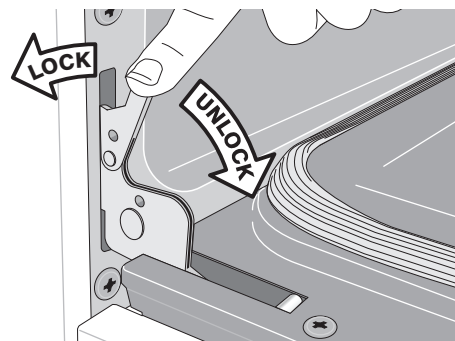

Figure 16: Door hinge locks
2. Pull the door hinge locks on both left and right door hinges down from the oven frame completely toward the oven door (See Figure 16). A tool such as a small flat-blade screwdriver may be required.
4. Push the door hinge locks up toward and into the oven frame on both left and right oven door hinges to the locked position (Figure 16).